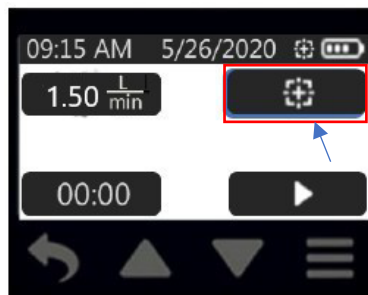

Figure 12. Calibration Button
3. Touch calibration icon (Figure 12).